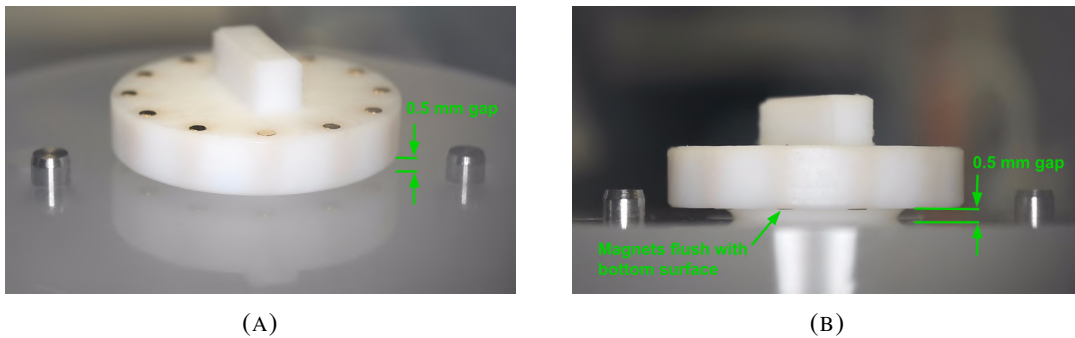

FIGURE 4.19 – Rotor properly inserted into the stator
2. Check the visual aspect of the rotor. If the rotor is correctly inserted, there should be a gap of 0.5 mm between the collar of the rotor and the stator, as shown in Figure 4.19. The magnets of the rotor should also be flush with the bottom surface of the collar.
3. Push the rotor back in place, as shown in Figure 4.21b. You should feel a slight movement and the rotor should now look as in Figure 4.19.